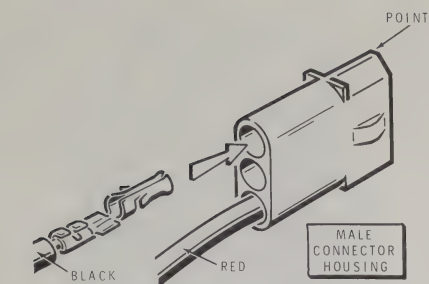

Figure 2-9
- () Refer to Figure 2-9 and position the male connector housing with the point up and push the female pin on the black wire into the upper hole, as shown, until the pin locks into place.